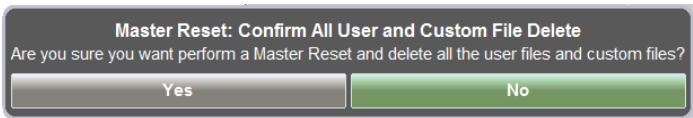

Figure 1-4. Master Reset Confirmation
3. To erase all user files in internal memory, press the Master Reset button. A dialog box is displayed, warning that all settings will be returned to factory default values and that all user files will be deleted (Figure 1-4). Deleted files cannot be recovered.